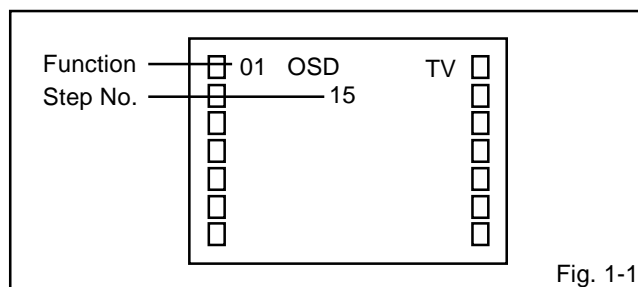

Fig. 1-1
1. In the condition of NO indication on the screen. Press the VOL. DOWN button on the set and the Channel button (**9**) on the remote control for more than 1 second to appear the adjustment mode on the screen as shown in **Fig. 1-1**.
3. Activate the adjustment mode display of **Fig. 1-1** and press the channel button (**63**) on the remote control to select "LVL".
5. Activate the adjustment mode display of **Fig. 1-1** and press the channel button (**03**) on the remote control to select "CUT OFF".
4. Activate the adjustment mode display of **Fig. 1-1** and press the channel button **(12)** on the remote control to select "R CUT".
3. Activate the adjustment mode display of **Fig. 1-1** and press the channel button **(04)** on the remote control to select "HPOSI".
3. Activate the adjustment mode display of **Fig. 1-1** and press the channel button **(07)** on the remote control to select "VSIZE".